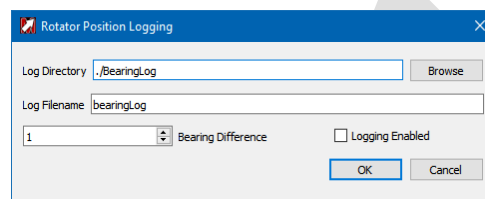

Figure 105 – Configuring Rotator Position Logging
**“Configure/Log Heading”** allows a location and filename to specified for logging bearings when **“Logging Enabled”** is ticked (see Figure 105). Bearings will continue to be appended to the specified file97 every time Minos Rotator is started until **“Logging Enabled”** is cleared. The **“Bearing Difference”** is the incremental change required before a new bearing is logged.